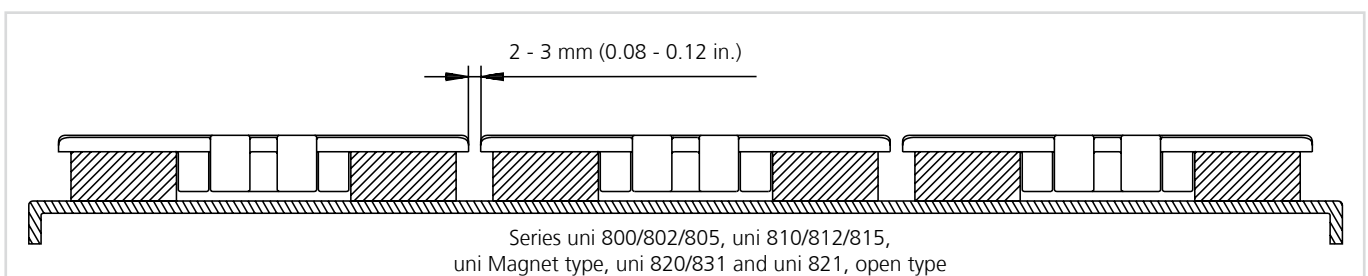
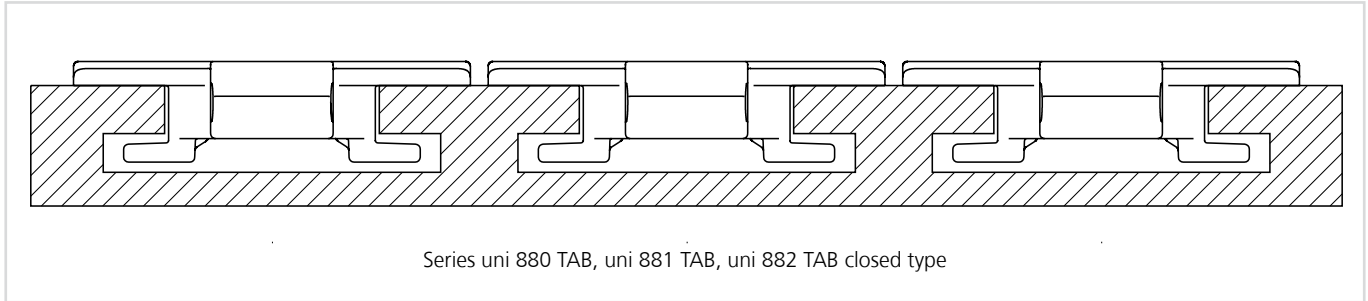

Fig. 3-49
Fig. 3-50
- Straight profiles can consist of one block with a machined track(s) or several pieces that make up the track. Fig. 3-49 and Fig. 3-50